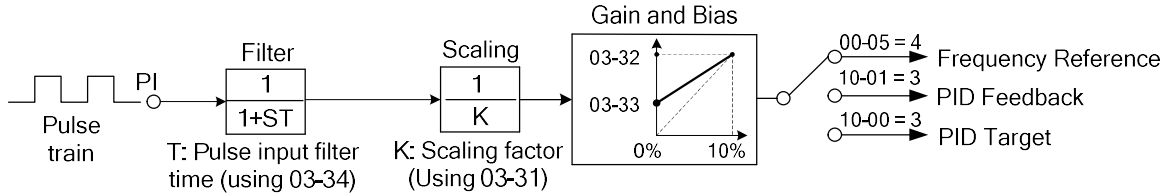

Figure 4.3.41 Pulse input adjustment
- Figure 4.3.41 is the schematic diagram of using pulse input function adjustment.